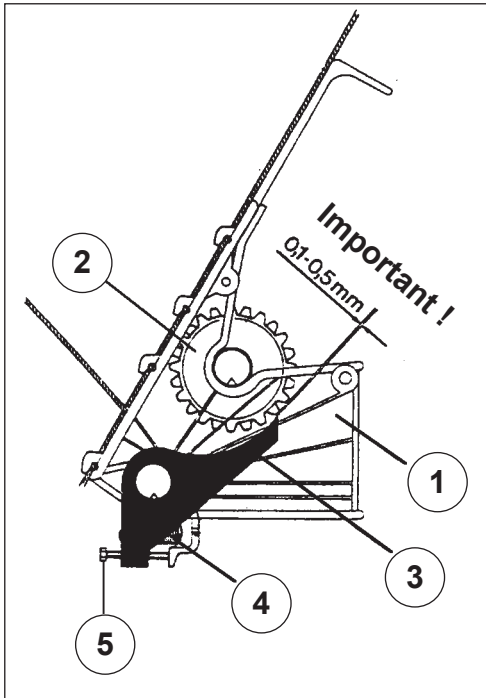

Fig 20
#### 9 Bottom Flaps (Fig 20)
**By turning the metering wheel shaft by hand check the flaps are all set to a gap of 0.1 to 0.5mm (refer Fig 20).** To adjust individual flaps use the spring tensioning screw (5) (Fig 20).